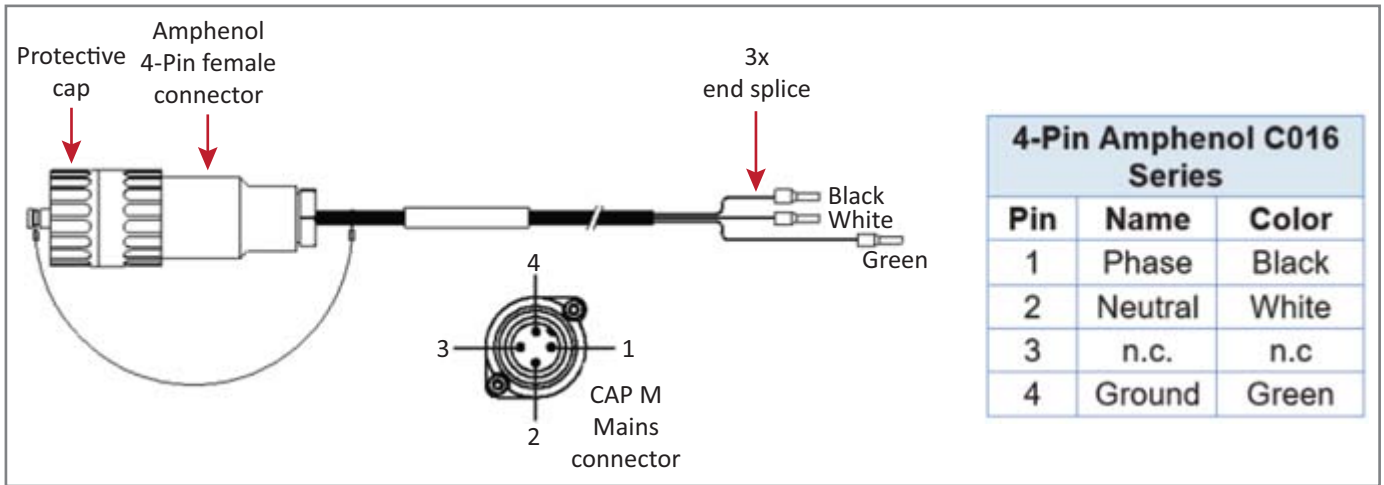

Figure 9. CAP M AC Power Cable
The AC power cable is a 3.2 m (10.5 ft) 16 AWG cable with a 4-pin Amphenol C016 series plug on one end to connect to the CAP M Mains connector. The other end of the cable is unterminated with 3 end splices to connect to the AC power source. A 10 m (33.7 ft) AC power cable is also available as an option. The AC power cable is shown in Figure 9.
- Figure 9 on page 50 for the AC power cable